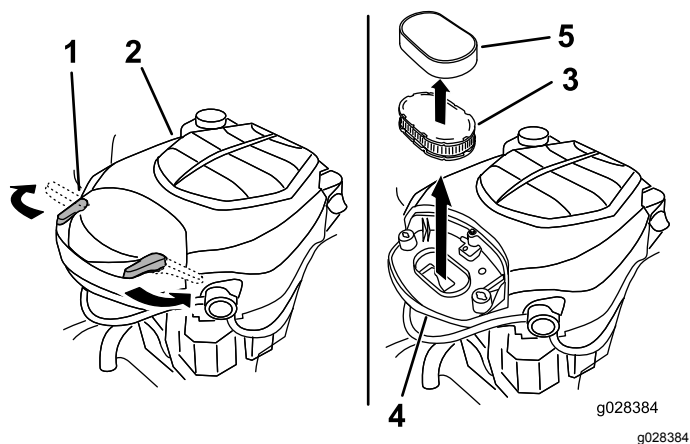

Figure 27
2. Remove the cover to access the air-cleaner element (Figure 27).
10. Install the cover, and secure it with the latches (Figure 27).